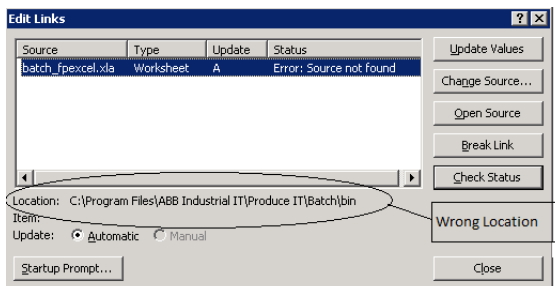

Figure 3. Path to be Changed
- The location encircled in Figure 3 is incorrect. The path has to be updated. Click **Change Source**.